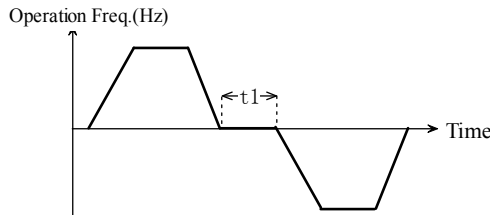

Fig. 5-2-2 FWD/REV switching time
- ◆ The switching time is the transition time at zero frequency when the inverter switching its running direction as shown in Fig. 5-2-2 as t1.